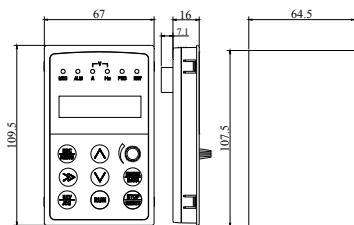

Fig.2-5 Mounting size of keypad
- (1) EN-LCD2 long-distance keypad outer lead, do not support keypad holder installed, only keypad installed support, mounting size refer to Fig.2-5.
- (2) Except EN-LCD2 long-distance keypad, when other keypad outer lead, user can adjust the hole size under actual situation on keypad or keypad holder; thickness of install board between 1.0~1.5mm is suggested.
- (3) When installed with keypad holder, it need to buy extra.